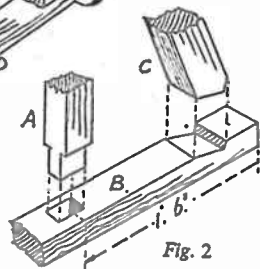

Fig. 2
side view giving some useful measurements. The post (A) may be 4ins. by 3ins. in section, the sole plate (B) about 4ins. by 2ins., and the struts (C) 3ins. square. The parts should be properly framed together, the post having a stub tenon to fit into the sole plate, and the struts notched into the plate and the posts in the manner shown in Figs. 2 and 3. Coach bolts or long screws will form the fixing between